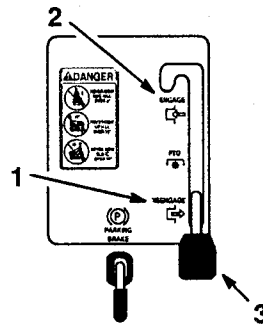

Figure 8
3. Move the blade control (PTO) to "DISENGAGED" (Fig. 8).